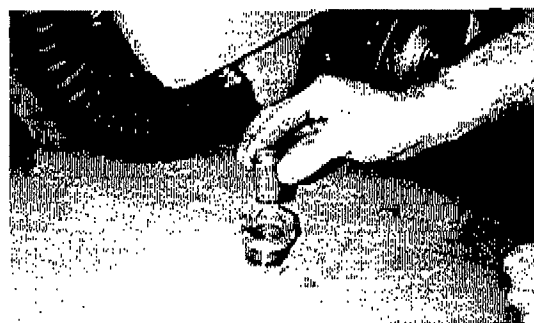

FIG. 38
2. Remove inline strainer filter and rinse out. Before removing filter, be certain solution tank is empty. Filter is located under machine at rear (Figure 38).